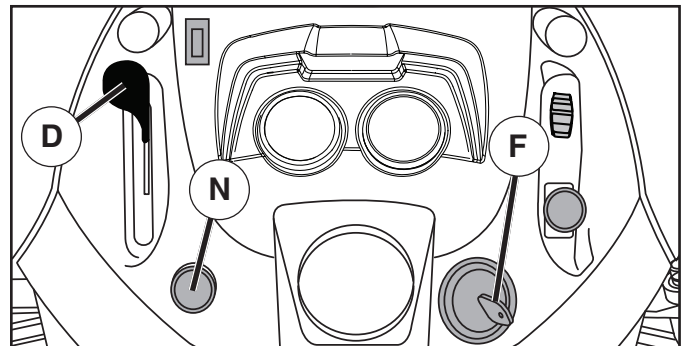

Fig. 8
TO USE THROTTLE CONTROL (D) (See Fig. 8)
TO USE CHOKE CONTROL (N) (See Fig. 8)